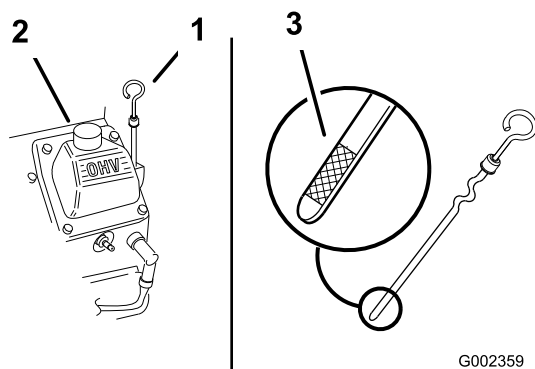

Figure 149
3. Clean around the oil-fill cap and dipstick (Figure 149).